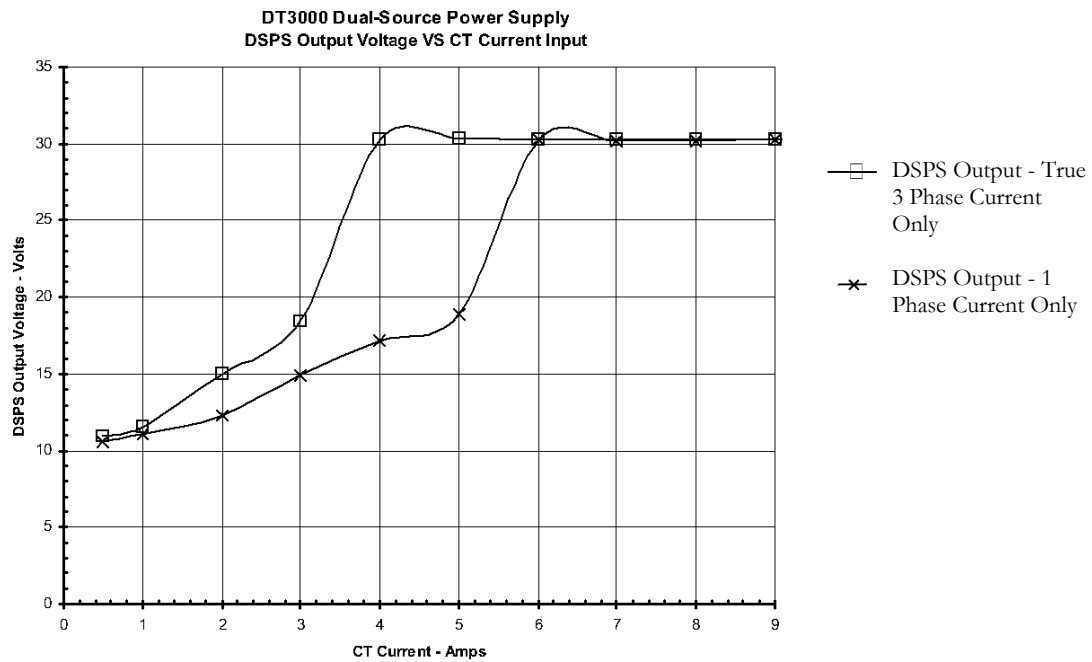

Fig. B-9 DSPS Output Voltage to Relay
- The dc voltage on terminals TB1 - 5 & 6 should correspond very roughly to that from the plot in Figure B-9, DSPS output voltage as a function of three-phase current.